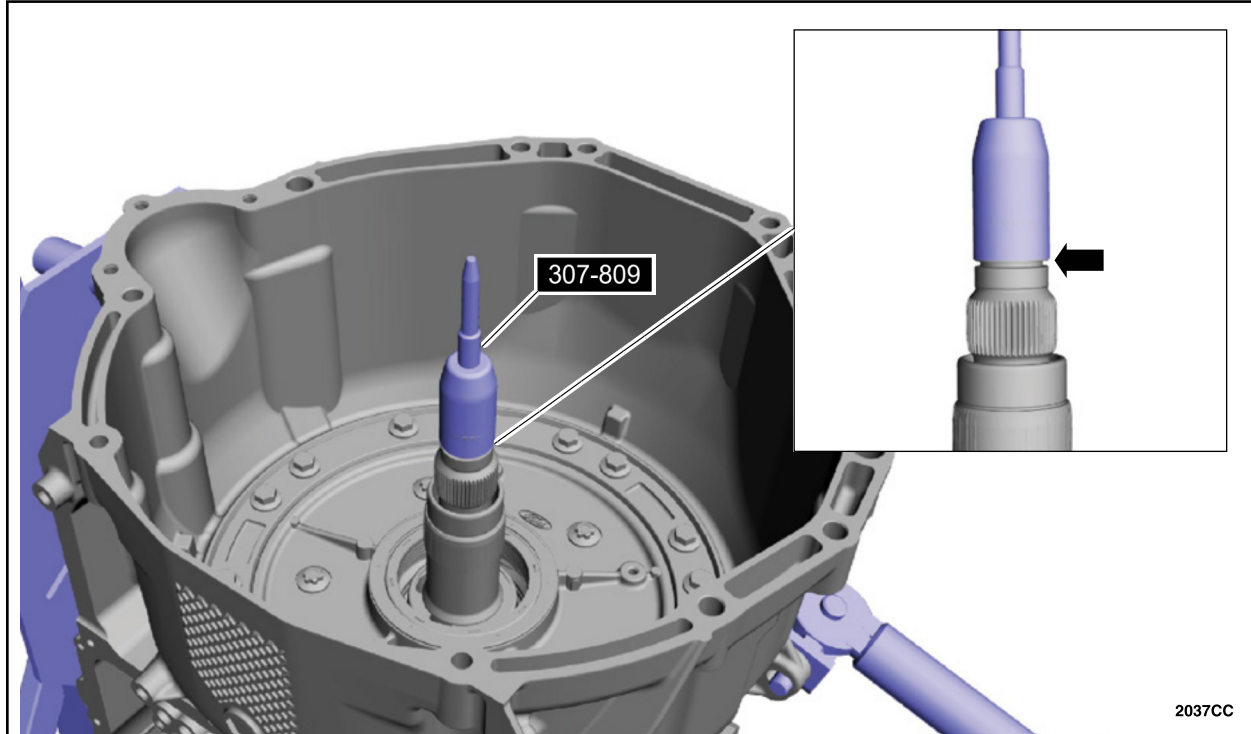

FIGURE 21
24. Install special tool 307-809 and adjust it to align the bottom edge of the tool with the top end of the groove of the Teflon® seal being replaced. See Figure 21.